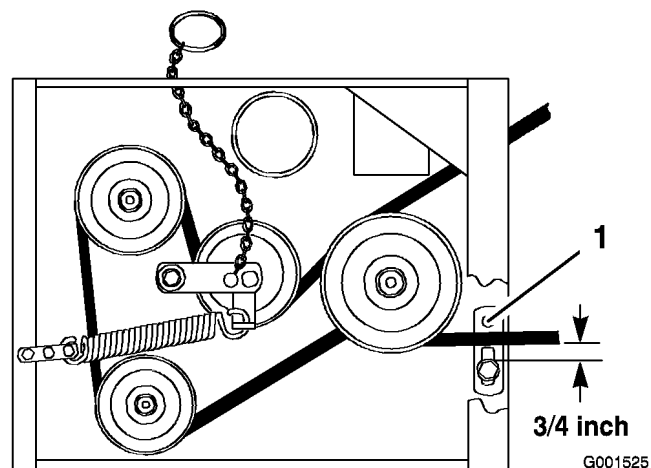

Figure 50
- Check the belt guide under the engine frame for proper adjustment (Figure 50).
Note: The distance between the belt guide and the mower belt should be 3/4 inch (19 mm) when you engage the mower belt (Figure 50). Adjust the mower belt as necessary. The disengaged belt should not drag or fall off the pulley when the guides are properly adjusted.